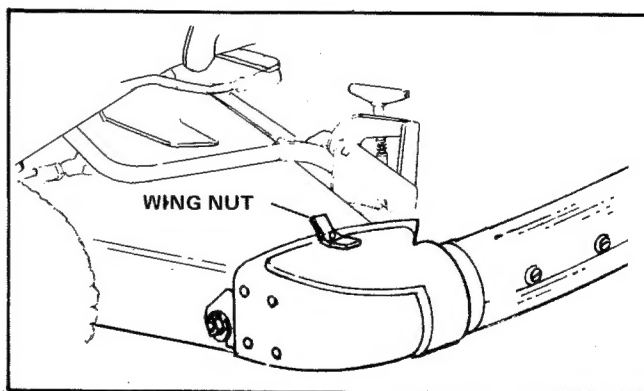

Figure 16. Installing Adaptor
5. Place the correct vacuum collector adaptor on the mower housing as shown in figure 16. The front slot fits over the spacer just installed, and the top hole fits over the carriage bolt on the top of the mower housing. Place the wing nut on the top carriage bolt and tighten it.